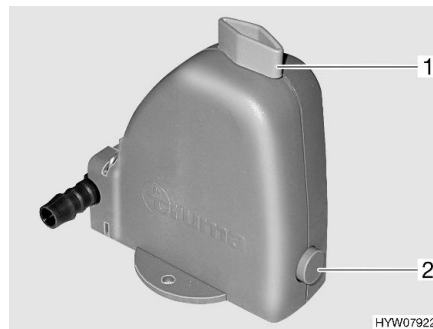

Fig. 84 Safety/drainage valve
The heater is equipped with a safety/drainage valve (Fig. 84). The safety/drainage valve prevents water for the production of hot water from freezing, when there is frost and the heater is not switched on.
- Close the safety/drainage valve. Turn the knob (Fig. 84,1) perpendicular to the safety/drainage valve and push the push button (Fig. 84,2) in.
- Open the safety/drainage valve. To do this turn the knob (Fig. 84,1) parallel to the safety/drainage valve. The push button (Fig. 84,2) jumps out. The domestic water container is emptied to the outside through the safety/drainage valve.